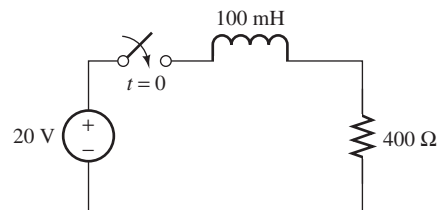

FIGURE P5.25 Circuit for Problem 5.25.
5.25 (B)* Find the current flow through resistor at $t(0)$ and $t(\infty)$ for the circuit shown in Figure P5.25. Assume that the switch is closed at $t = 0$.